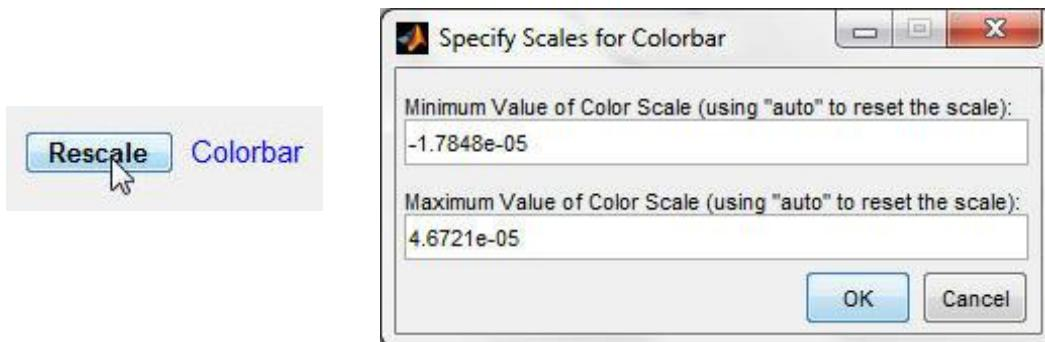

Figure 5-60. Rescaling the color bar.
Step 1: Click the **Rescale** button to open a text field window, where the minimum and maximum values of the color scale of the current map are shown in upper and lower text fields, respectively, as shown in Figure 5-60.